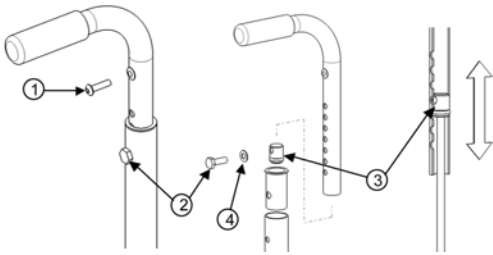

Fig. 12
- Loosen the screw (1) (Fig. 12) that holds the back upholstery.
- Pull backrest upholstery down several centimeters in order to access screw (2) that holds the push handle.
- Remove screw (2) and the backrest handle.
- To adjust the backrest height, with the help of a threaded rod ($\frac{1}{4}$ "-20), move the dowel nut (3), which is located inside the handle.
- Once this step is completed, use screw (2) to hold the dowel nut (3) while removing the threaded rod.
- Remove screw (2) and reinstall backrest handle.
- Align screw (2) with the mounting hole.
- Reinstall and tighten screw (2) and the washer.
- Reinstall the backrest upholstery with screw (1) and tighten to fit snugly.